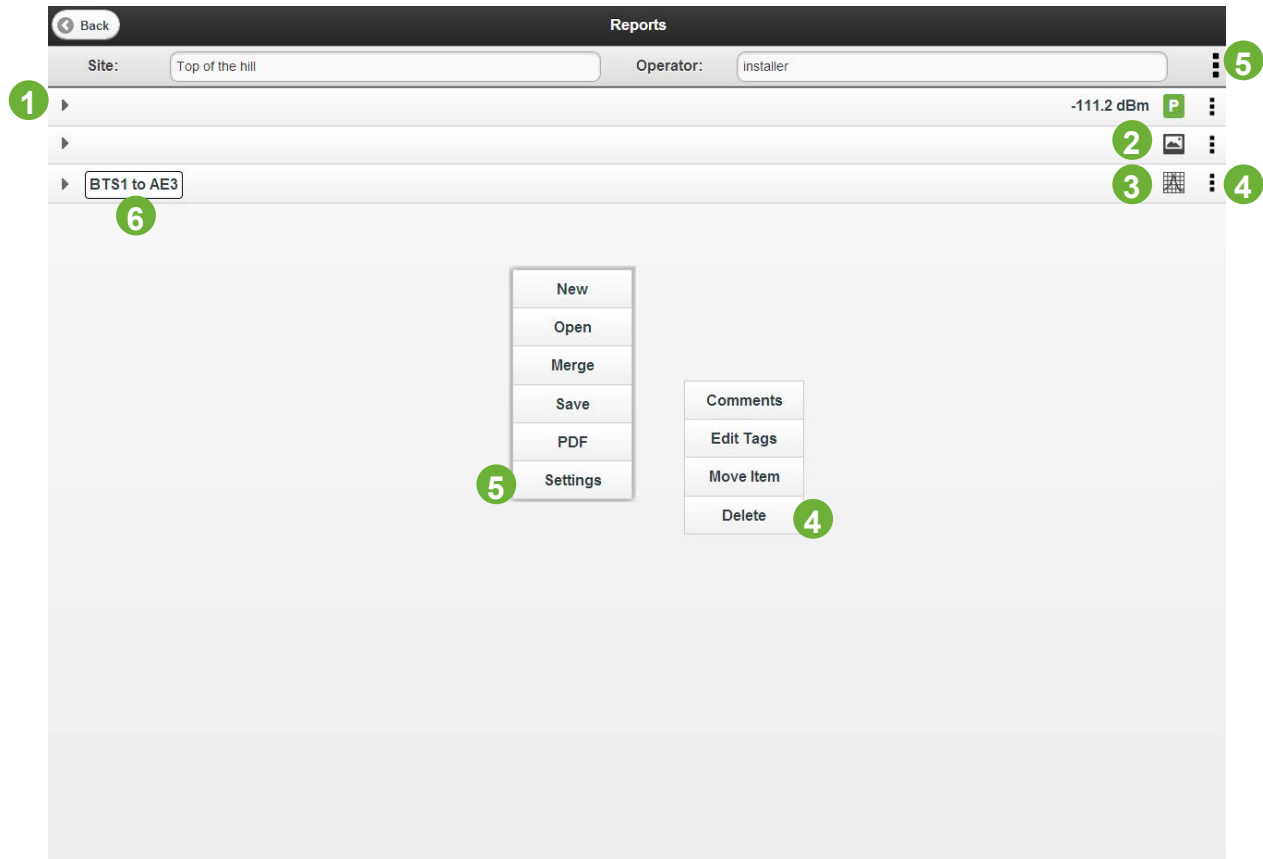

Figure 46 Report Browsing Window
5. The report may be saved into the iTA or SD card in an *.zip format or saved as a PDF. See Figure 46. Note : (Settings) This allows access to Report Settings from remote browser as per Section 1.10.2. (New) This will clear the current report data and start from a new screen, ensure any wanted results are saved before commencing a new report or data will be lost. (Merge) Allows the report zip file to be merged with the report in memory. Note : the report in memory must be saved before it can be merged with another report file. *.rpt files from early iPA's and iVA reports can also be merged with iTA reports.
See “Figure 46 Report Browsing Window”. To locate the move control beside the item you want to shift. Select Move, once highlighted press in the new location for the item.